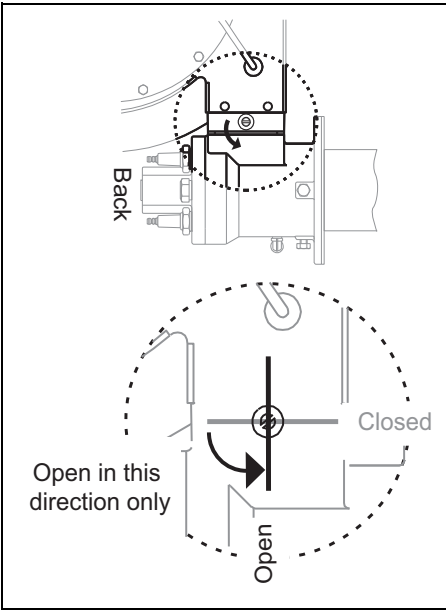

Figure 4.1. Air Butterfly Valve Open Direction
8. Verify the actuator opens the air butterfly valve towards the back of the burner as shown in Figure 4.1. If it doesn't, refer to the actuator's literature for instructions on how to reverse the direction.